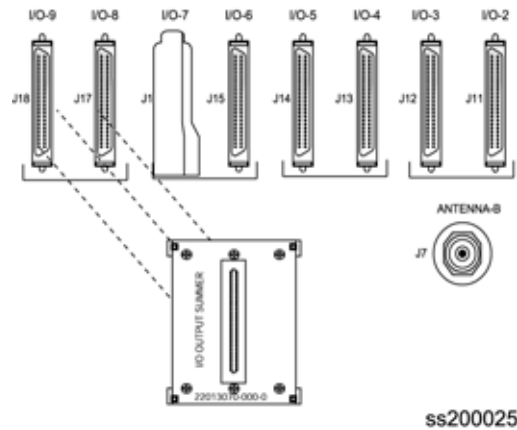

Figure 2-5. Installing the Output Summer Adapter
To create an A/B pair of Output modules in a redundancy configuration, you need to install Output Summer adapters (part number 22013070-000-0) on the corresponding outputs as shown in Figure 2-5. All Module A outputs are summed with the corresponding outputs of Module B, providing 1:1 output protection (1:1 redundancy). Output pairs in slots A4/A5, A6/A7, A8/A9, and A10/A11 are available for configuration in redundant mode using Output Summer connectors. The pinout of the Output Summer adapter is the same as the I/O interface connectors (see Chapter 7 of the *SSU-2000 Technical Reference*).
2. Install Output Summer adapters on all I/O connector pairs that require redundancy, see Figure 2-5.